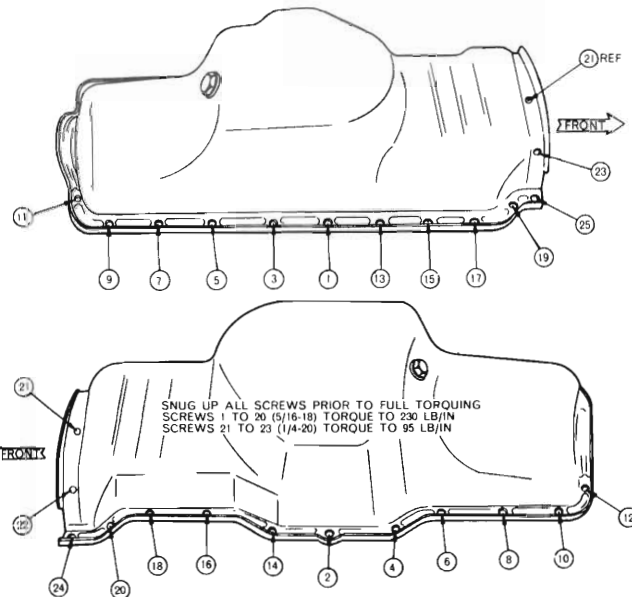

Fig. 1a - Sequence for tightening 6 cylinder model oil pan screws
(1) Using a new pan gasket, install oil pan and tighten bolts to 200 lbs. in. in sequence (see Fig. 1a).